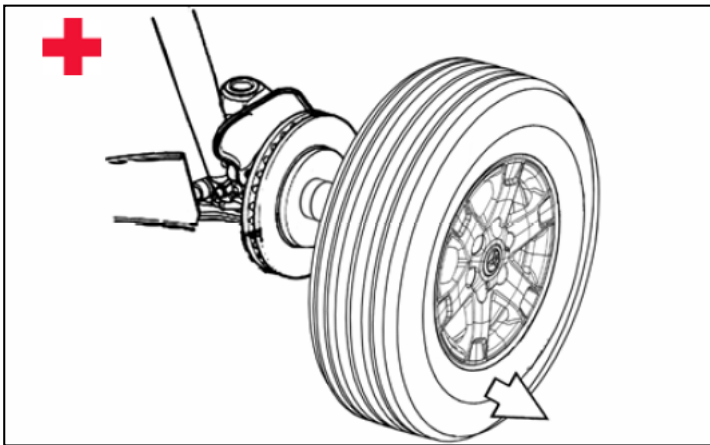

Figure 4
- +** d. Remove OE wheel and tire assemblies from the vehicle. Wear safety glasses while removing wheels. See Figure 4.